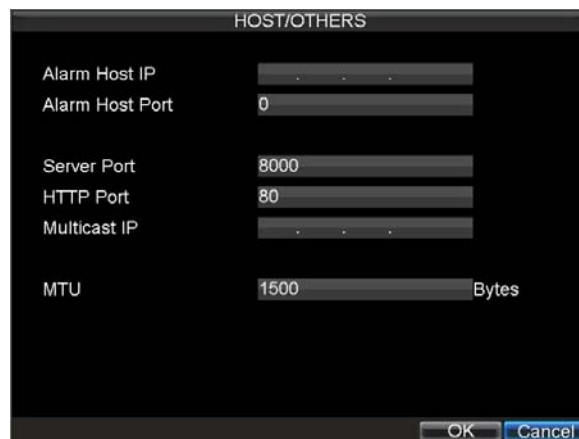

Figure 12. Host/Others Menu
4. Enter new **Server Port** and **HTTP Port**, as shown in Figure 12.